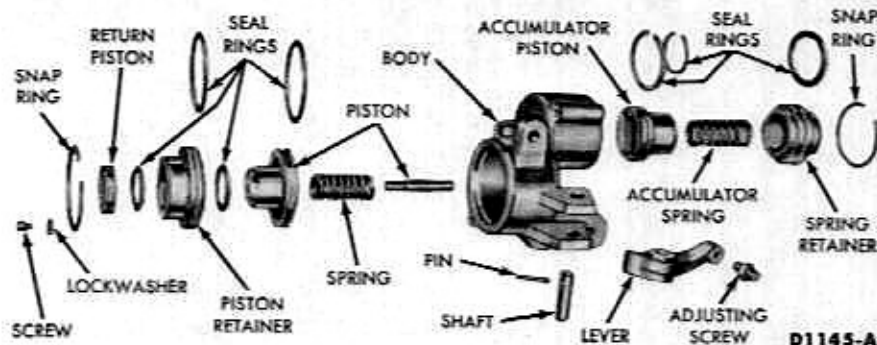

FIG. 22—Front Servo
1. Remove the servo piston retainer snap ring (Fig. 22). **The servo piston is spring loaded. Apply pressure to the piston when removing the snap ring.**
7. Inspect the servo body for cracks and the piston bore and the servo piston stem for scores (Fig. 22). Check fluid passages for obstructions.